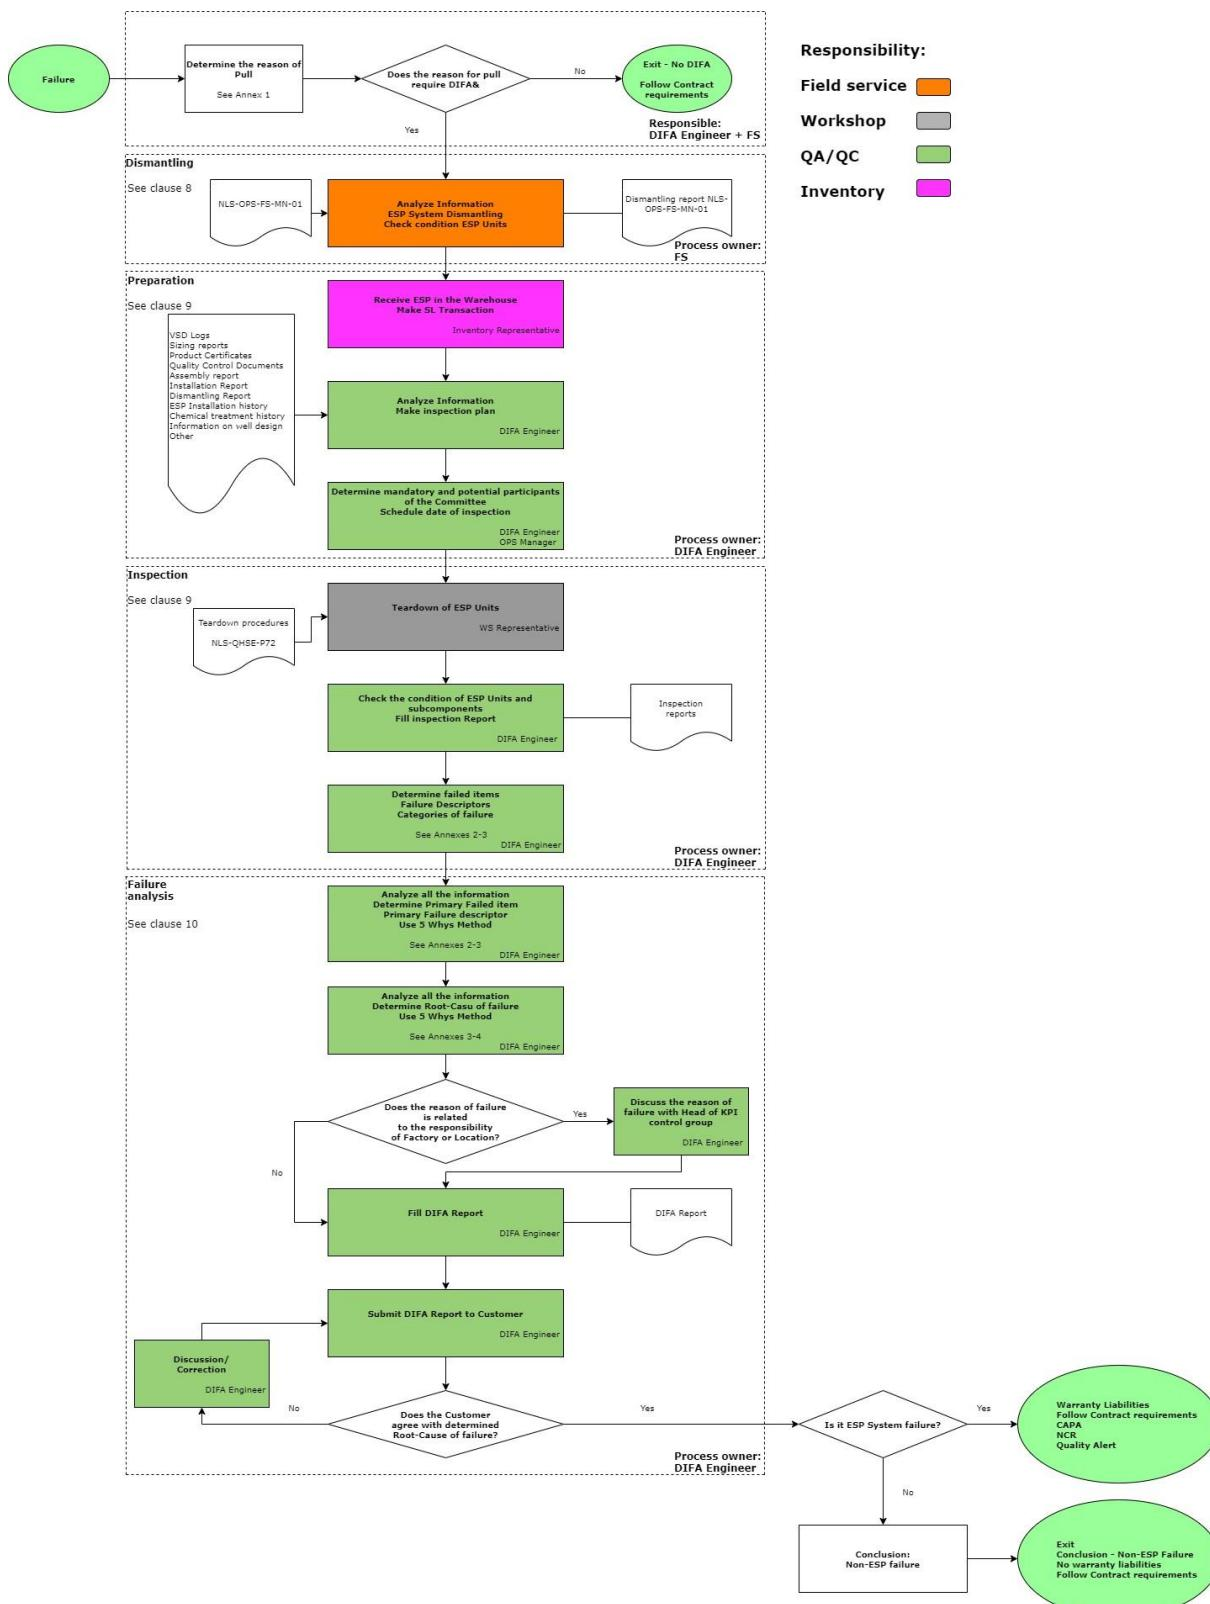

Figure 1. Main stages of DIFA Process
7.12 Main stages of DIFA Process are presented in the Figure 1.